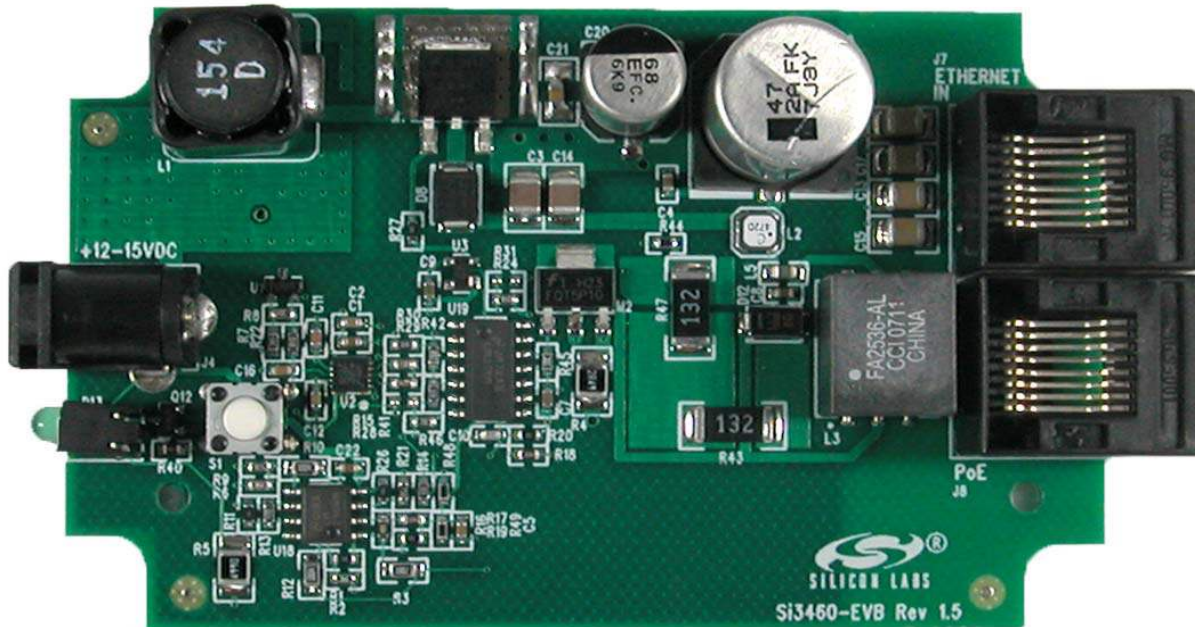

Figure 17. Si3460-EVB
- Updated Figure 17, "Si3460-EVB," on page 23.
- Updated Figure 17 on page 23.